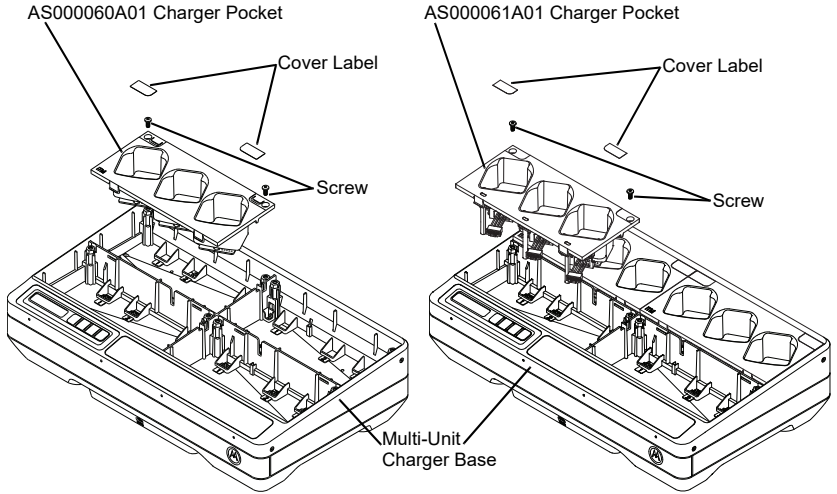

Figure 7: Installing and removing charging pocket.
4. Remove the Pocket Harness by pulling straight up on the connector (Refer to Figure 7).